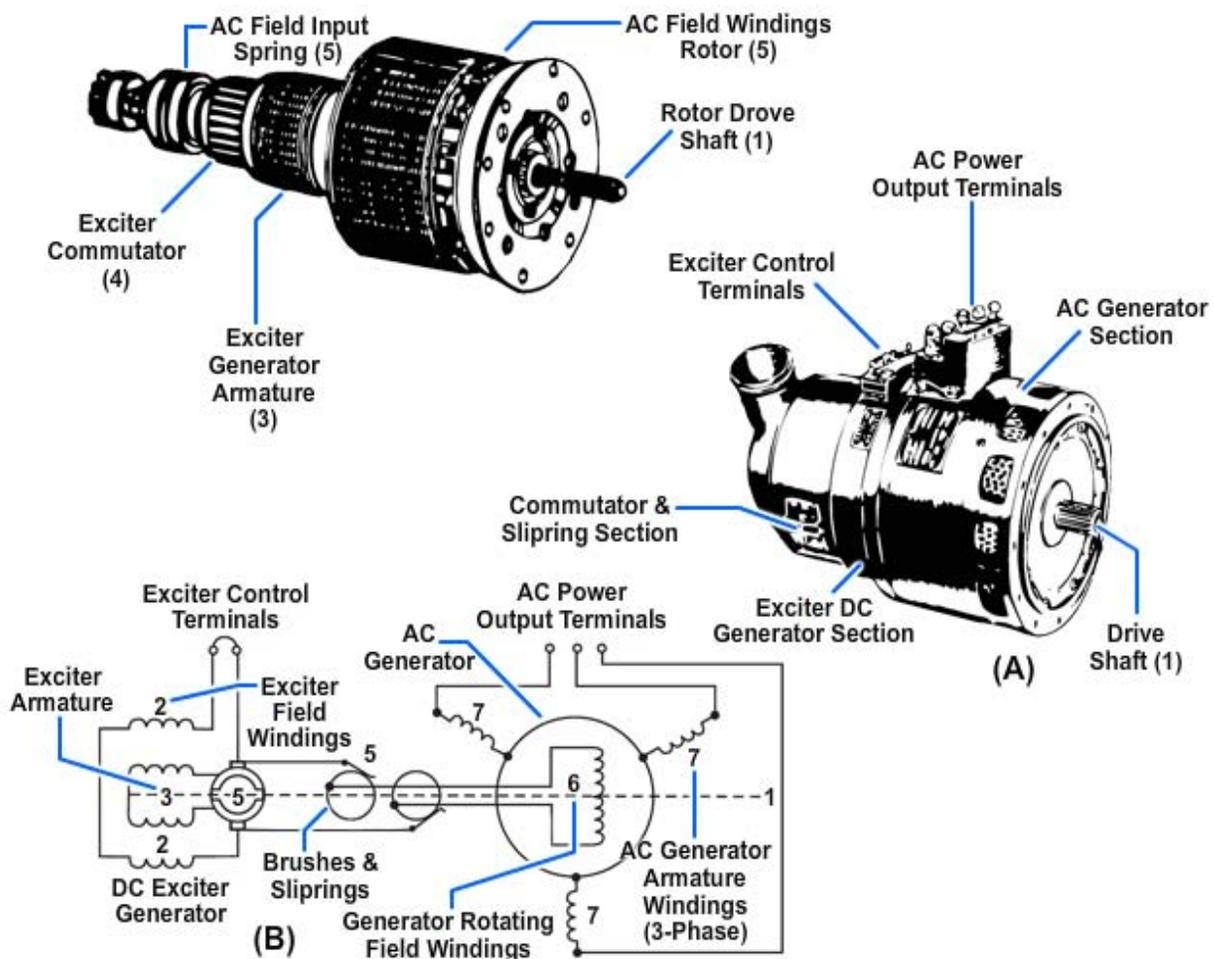

Figure 3-2 — Brush-type, three-phase ac generator.
BRUSH TYPE – *Figure 3-2* shows a brush type ac generator. It consists of an ac generator and a smaller dc exciter generator as one unit. The output of the generator supplies ac to the load. The only purpose for the dc exciter generator is to supply the direct current required to maintain the ac generator field. *Figure 3-2, view B*, is a simplified schematic of the generator.
Refer to *Figure 3-2* as you read this section. The exciter is a dc, shunt-wound, self-excited generator. The exciter field (2) creates an area of intense magnetic flux between its poles. Voltage is induced in the exciter armature windings when the exciter armature (3) rotates in the exciter-field flux. The output from the exciter commutator (4) flows through brushes and slip rings (5) to the generator field. Having already been converted